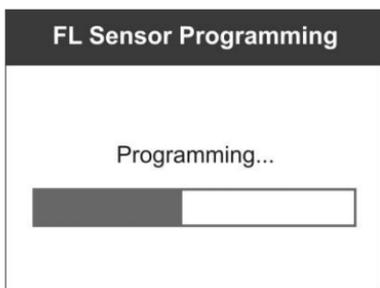
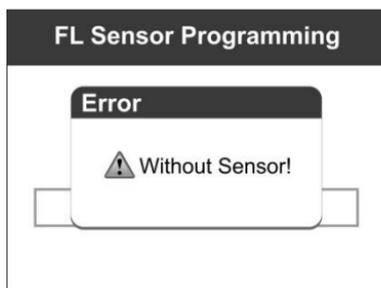

Figure 5-9
Figure 5-10
- 5) Press the **Y** button to write in the new created sensor ID to the MX-Sensor, and the screen will show as below (*Figure 5-9*), or the **N** button to exit without change. If an error prompt displays as below (*Figure 5-10*), please try another type of MX-Sensor, for the type of the inserted MX-sensor may be incorrect.